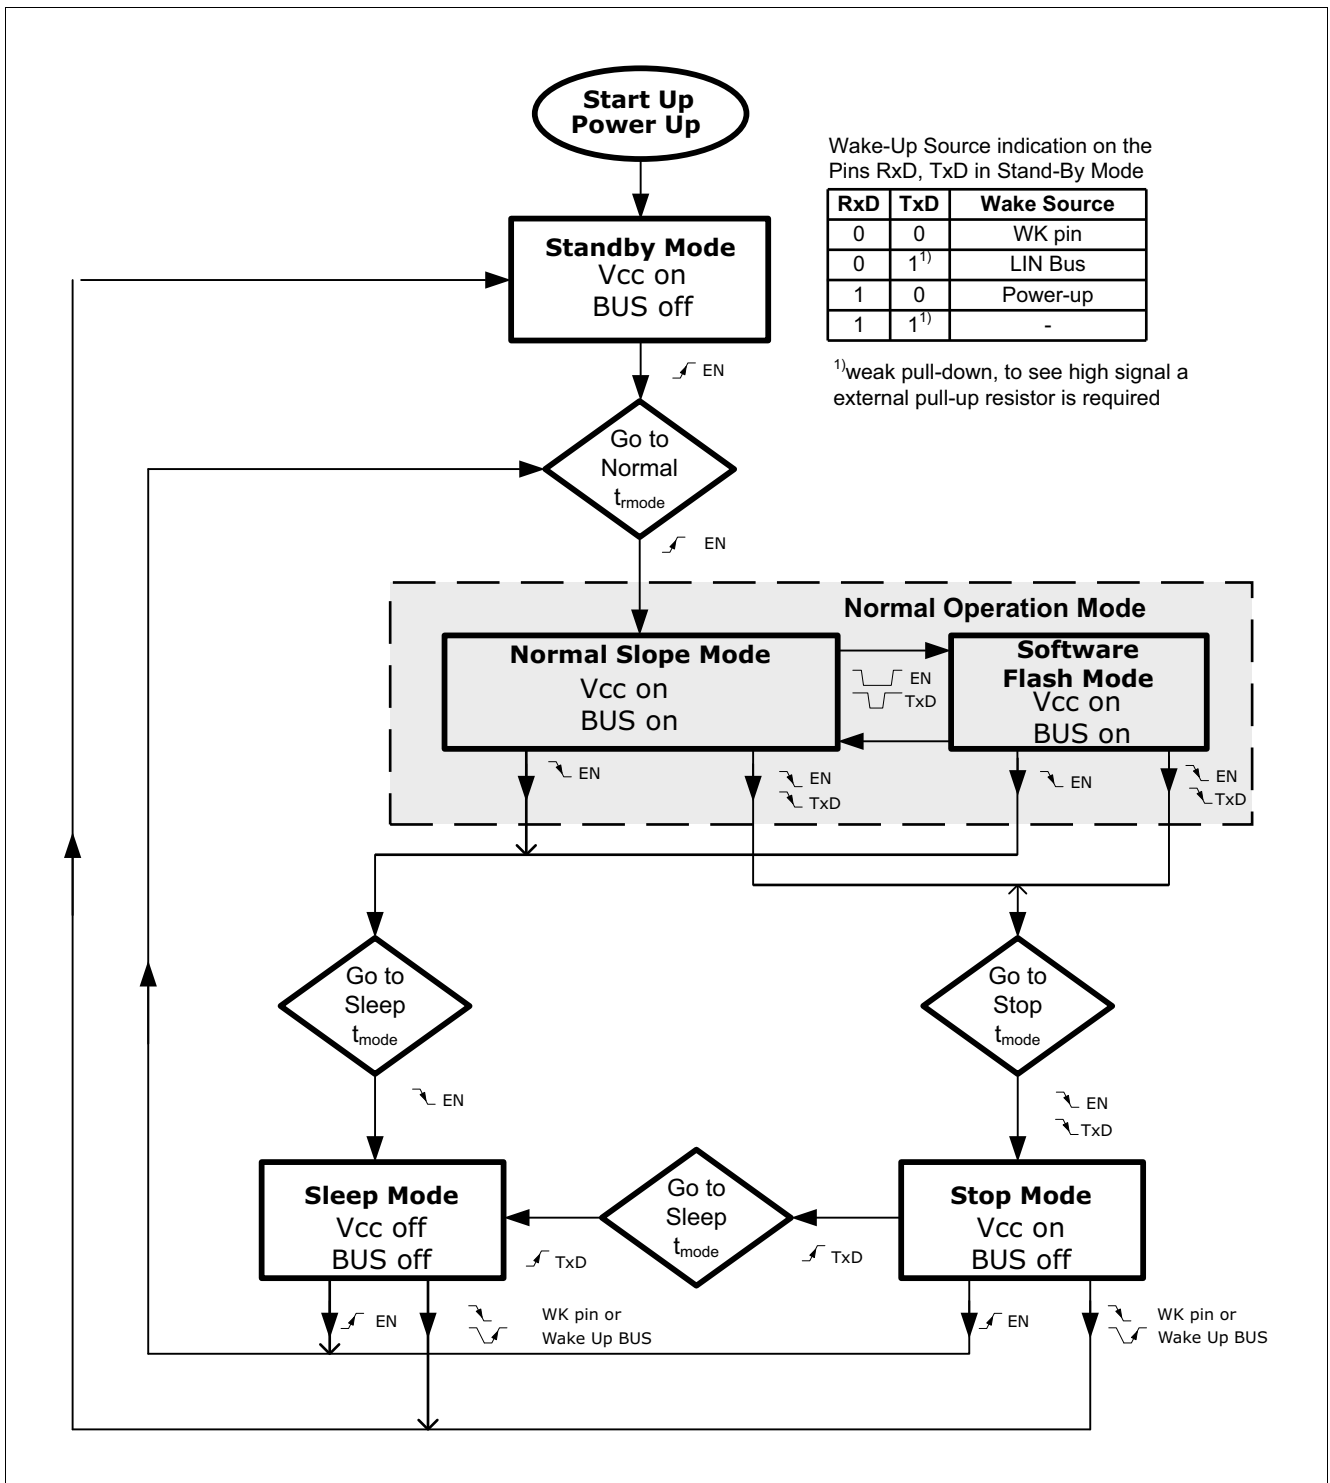
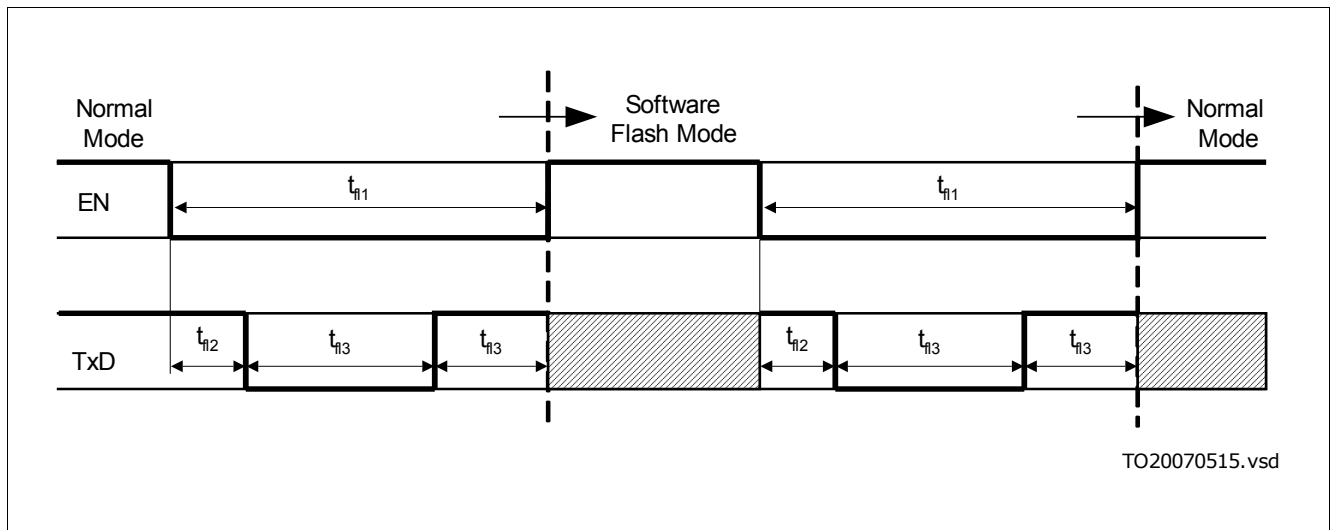

Figure 3 Operation Mode State Diagram
Figure 5 Software Flash Mode
The Normal Operation mode contains 2 sub-operation modes, which differentiate by the slew rate control of the LIN Bus signal (see Figure 3).
- The EN input pin is active. By setting the EN pin to HIGH the TLE8458 changes the operation mode to Normal Operation Mode (see Figure 3).
The Software Flash Mode can only be entered from Normal Slope Mode (see Figure 3). By setting the EN pin to low for the time  $t_{\text{fl1}}$  and by generating a falling and a rising edge at the TxD pin with the time  $t_{\text{fl2}}$  and  $t_{\text{fl3}}$  during the low phase of the EN pin, the TLE8458 changes to the Software Flash Mode (see Figure 5). Vice versa, the TLE8458 changes from Software Flash Mode to Normal Slope Mode by applying the same sequence to the EN pin and the TxD pin.